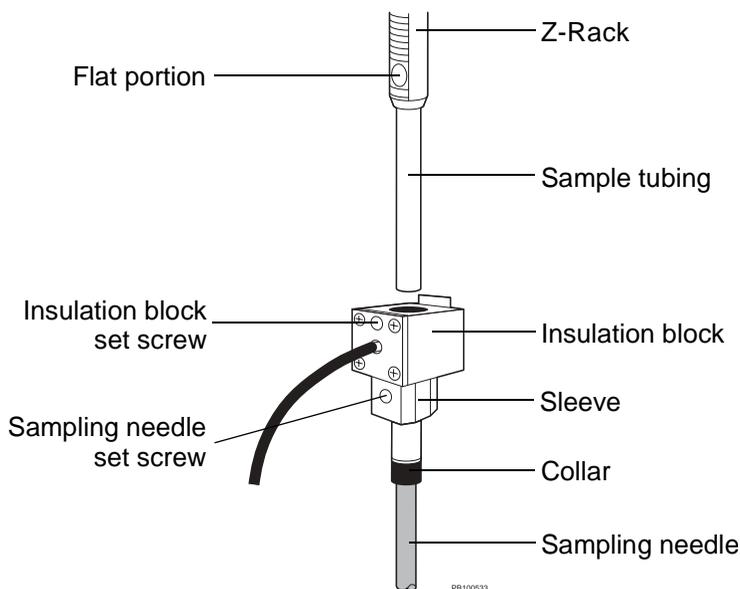

Figure 5-3 Replacing the Sampling Needle
3. If necessary, use a brush to remove debris from the teeth of the Z-Rack (see Figure 5-3).
2. Loosen the insulation block set screw using a hex wrench (Figure 5-3).